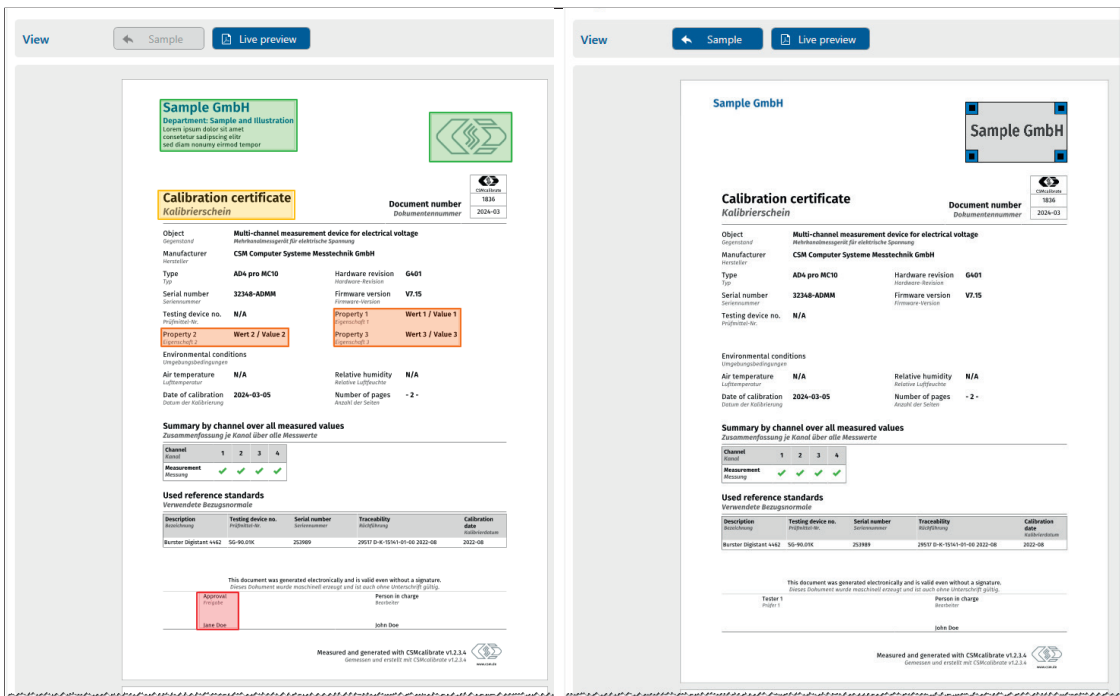

Fig. 3-15: Sample document (left), Live preview (right)
- **Protocol title:** Title of the document (calibration protocol) in the main and secondary languages (e.g. German and English); the standard texts are "Kalibrierschein" and "Calibration certificate" (→ Fig. 3-15).
- **Properties:** This is where customer-specific properties can be entered that have to be included in the calibration certificate (→ Fig. 3-15).
A template of a calibration certificate is shown in the **Sample document** section. Content that may vary depending on user-defined information is highlighted in color (Fig. 3-15, left). The colors correspond to the colors of the input fields for user-defined information in the chapters 3.3.1.2 to 3.4.2.4.
Clicking the **Live preview** button opens the preview version of the calibration certificate (Fig. 3-15, right), which may contain user-defined changes made according to the options described in the chapters 3.3.1.2 to 3.4.2.4. Clicking the **Sample** button displays the template of the calibration certificate again (Fig. 3-15, left).